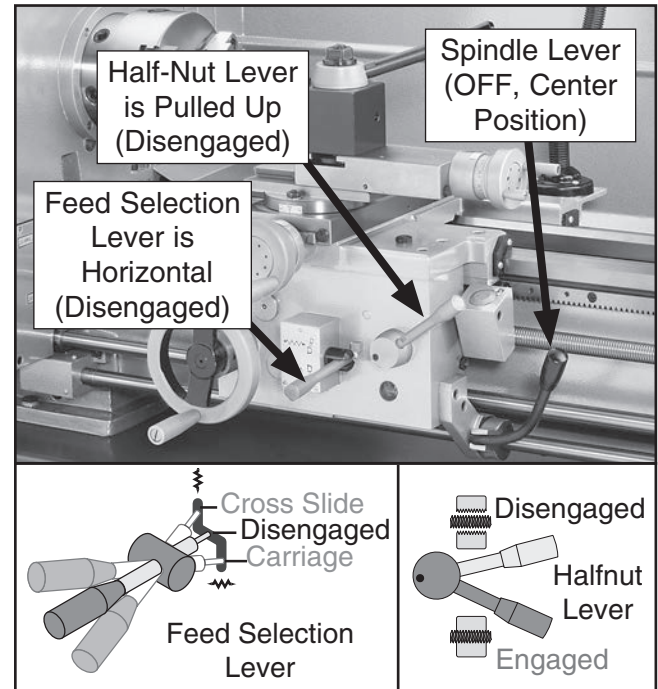

Figure 21. Disengaging carriage components.
2. Make sure spindle lever is in OFF (center) position (see **Figure 21**).
3. To ensure carriage components do not unexpectedly move during following steps, disengage half nut lever and apron feed selection lever (see **Figure 21**).